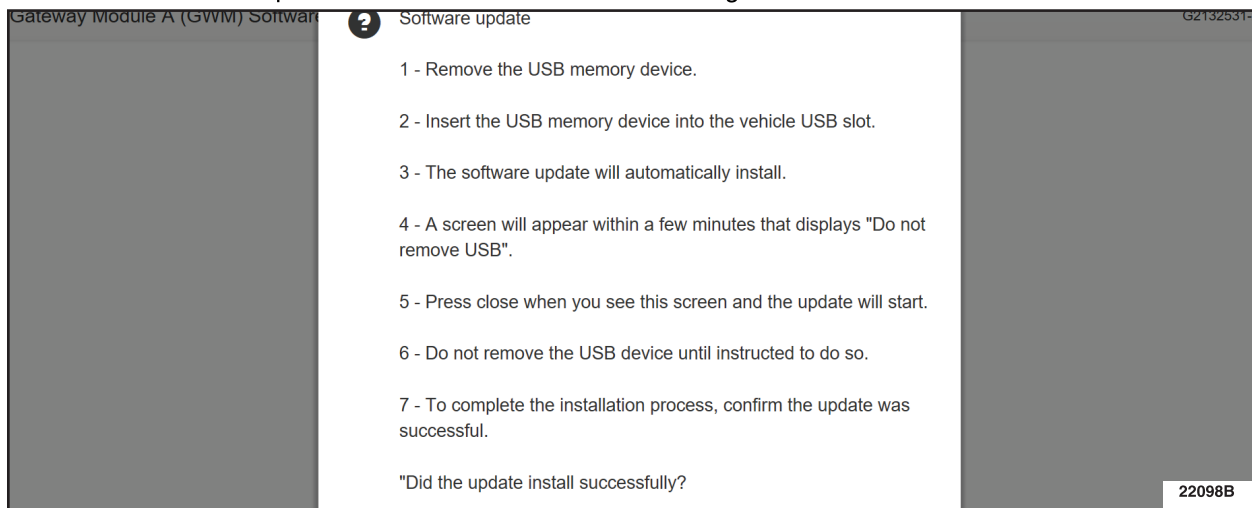

FIGURE 2
10. When prompted by the diagnostic scan tool, safely remove/eject the USB flash drive from the diagnostic scan tool and connect it to the USB hub to install the software into the GWM. The update should start automatically. It is normal for the GWM to reset during this step. See Figure 2.